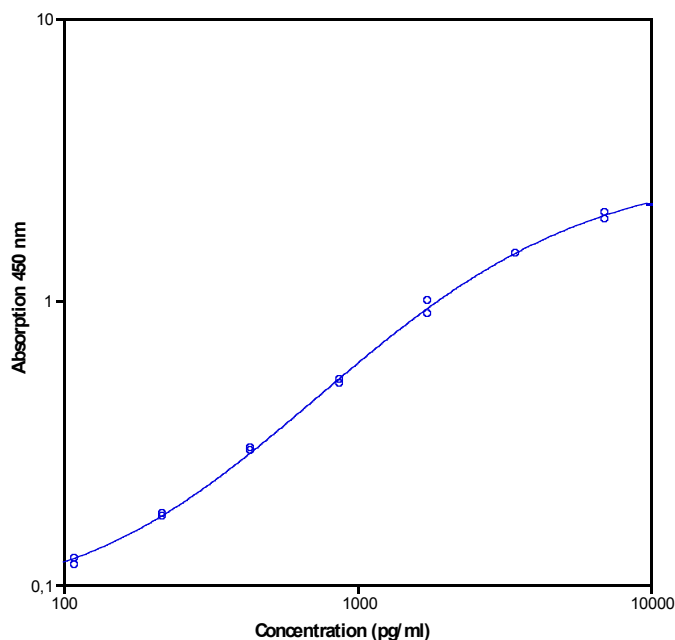

Fig. 9 Representative standard curve for Human IL-1RA ELISA Kit. Human IL-1RA was diluted in serial 2-fold steps in Sample Diluent.
- A representative standard curve is shown in Figure 9.